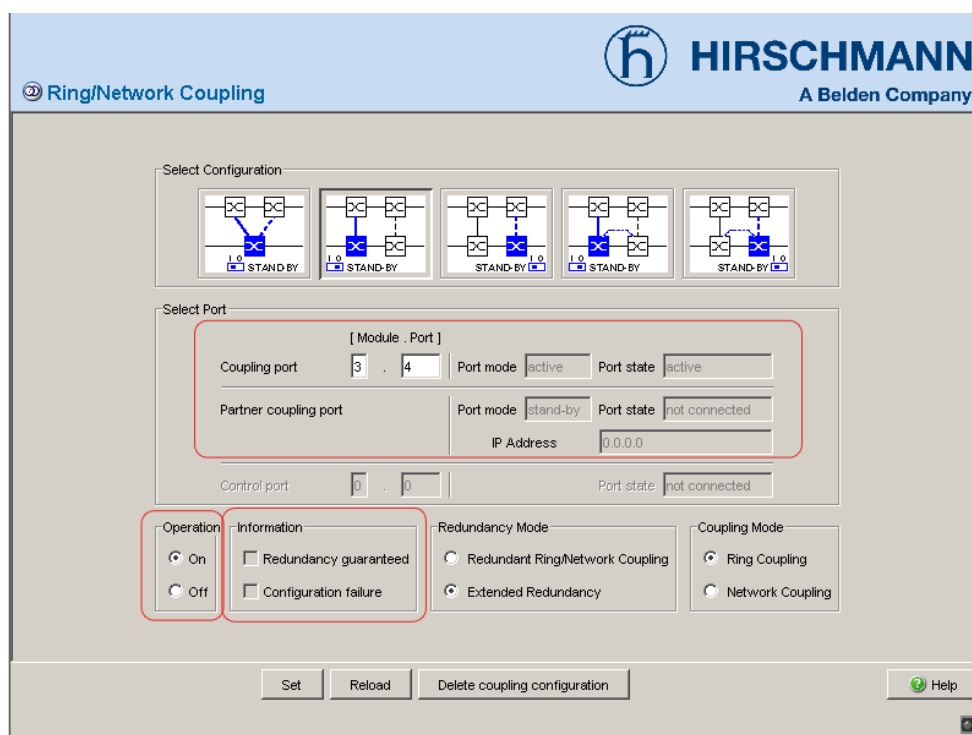

Fig. 20: Selecting the port and switching on/off the function
- Select the coupling port (see Fig. 20), (see Table 9 on page 42). With "Coupling port" you specify at which port you are connecting the network segments. If the STANDBY DIP switch is OFF, connect the main line to the coupling port.
- Switch on the function In the frame "Operation" (see Fig. 20).
The displays in the “Select port” frame mean (see Fig. 20):
The displays in the “Information” frame mean (see Fig. 20):
- Select the coupling port (see Fig. 20), (see Table 9 on page 42).